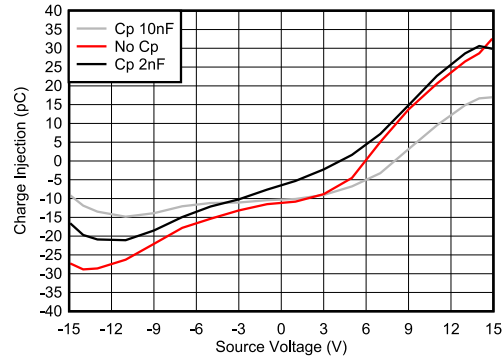

图 8-2. Charge Injection Compensation
The TMUX720x contains specialized architecture to reduce charge injection on the Drain (D). To further reduce charge injection in a sensitive application, a compensation capacitor ( $C_p$ ) can be added on the Source ( $S_x$ ). This will ensure that excess charge from the switch transition will be pushed into the compensation capacitor on the Source ( $S_x$ ) instead of the Drain (D). As a general rule of thumb,  $C_p$  should be 20x larger than the equivalent load capacitance on the Drain (D). 图 8-2 shows charge injection variation with different compensation capacitors on the Source side. This plot was captured on the TMUX7219 as part of the TMUX720x family with a 100pF load capacitance.